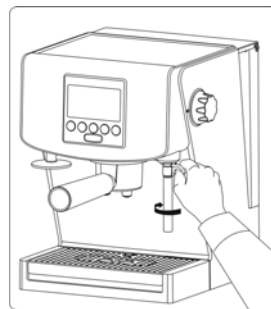

Fig. 9
CAUTION! Moving the steam/hot water nozzle (10) is possible only by means of a special attachment (Fig. 9). The steam/hot water nozzle (10) is extremely hot.